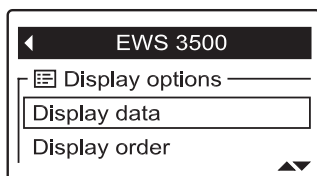

FIG. 113
3. Press the DOWN (▼) button to scroll through the menu options until **Display data** is highlighted in a box (See Figure 113).
8. When selections are complete, exit this menu by pressing the LEFT (◀) button. The display will go back to the device menu (Figure 113).